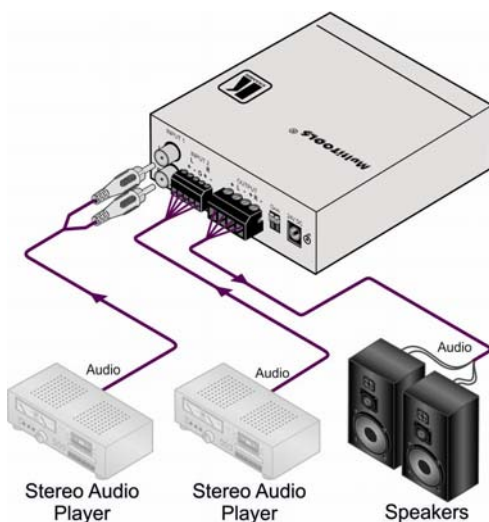

Figure 2: Connecting the 907xl Power Amplifier/Mixer
To connect the **907xl** as illustrated in the example in Figure 2:
4. Connect the 24V DC power adapter to the power socket and connect the adapter to the mains electricity (not shown in Figure 2.)